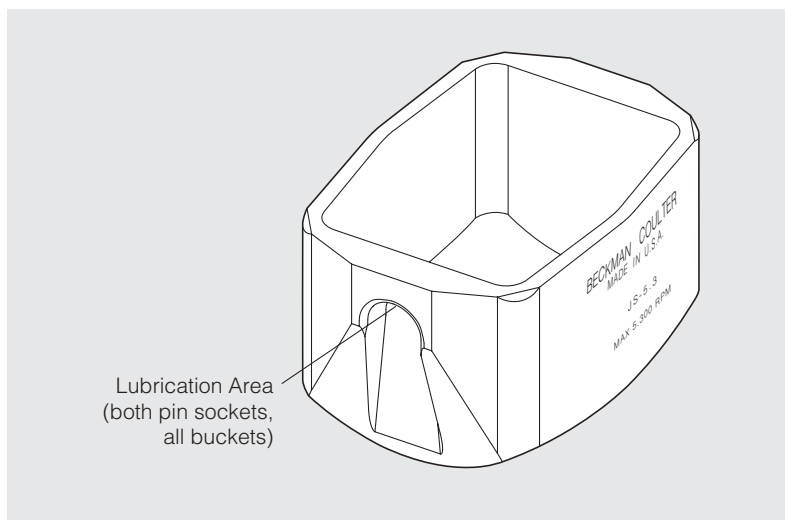

Figure 7. Bucket Lubrication Area
- Approximately once a week, and after cleaning and/or autoclaving, wipe the rotor pins and pin sockets (see Figure 7) with a paper towel, then coat pin sockets with Paint On Graphite Lubricant (977212). Allow the lubricant to dry for at least 5 minutes before installing the rotor in a centrifuge.